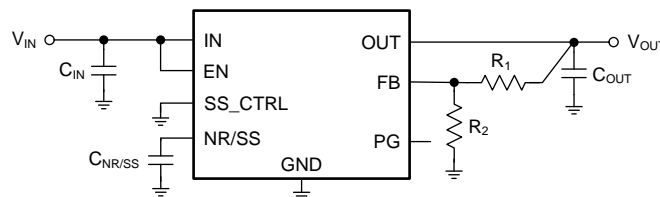

图 38. Adjustable Operation
The output voltage of the TPS7A9201 can be adjusted from 0.8 V to 5.2 V by using a resistor divider network as shown in 图 38.
(1) R_1 is connected from OUT to FB; R_2 is connected from FB to GND; see 图 38.